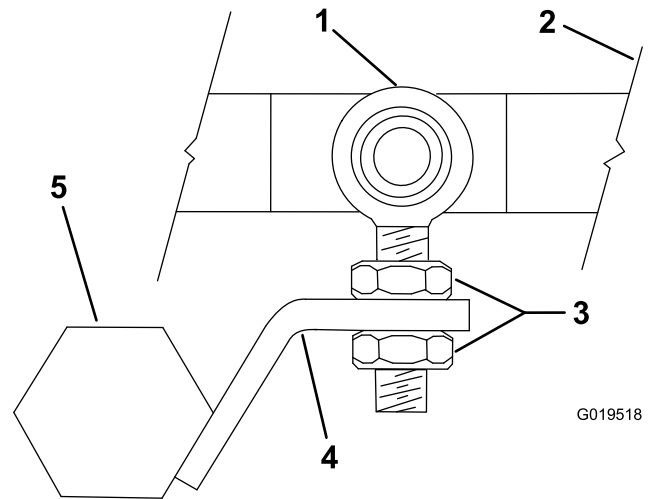

Figure 33
- 8. Loosen the locknuts on the blade (Figure 33).